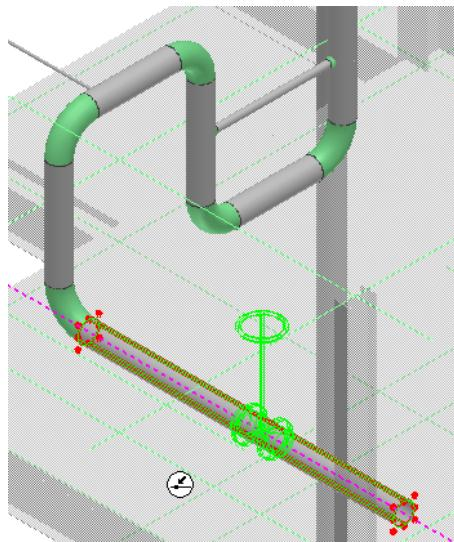

Figure 41: Gate Valve at a Distance of 6 ft from the End of the Pipe
66. You will now see an outline of a valve (base part) with mating flanges at the active placement point, as shown in Figure 41.